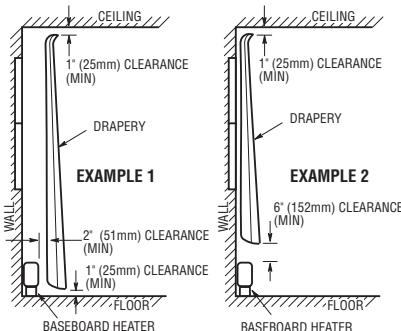

Figure 1. Positioning Drapery Near Heater
7. **CAUTION – Heater Operates at High Temperatures.** Keep Electrical Cords (including telephone and computer cables), Drapes, and Other Furnishings Away From Heater. For efficient and safe operation, we recommend maintaining a minimum of 6 inches (152 mm) clearance above and in front of the heater at all times. See Clearances section and Figure 1 for minimum clearance requirements.